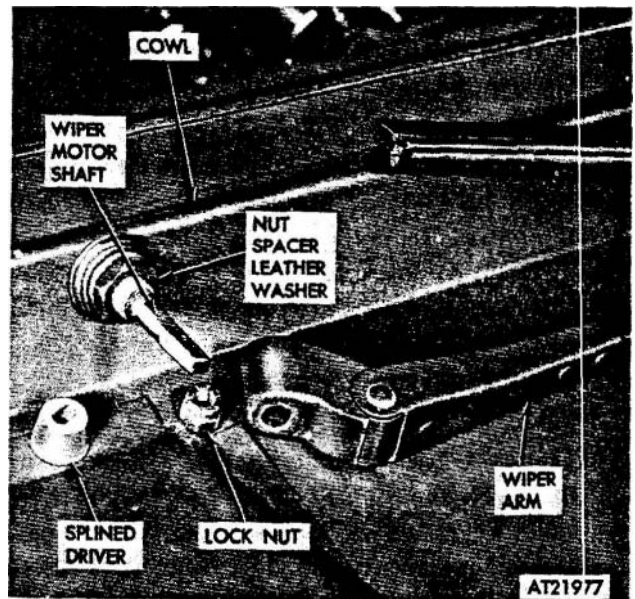

Figure 2-325. Windshield wiper motor, removal and installation.
- (1) Remove arm and blade assembly (refer to para 2-227).
- (2) Remove splined driver, nut, spacer, and leather washer from shaft and shaft housing (fig 2-325). Disconnect electrical leads.
- (3) Remove nuts securing wiper motor to stabilizer bracket and remove wiper motor.
- (1) Position motor assembly by inserting drive shaft through hole in cowl and the two studs through stabilizer bracket holes. Install two nuts securing motor assembly to stabilizer bracket,
- (2) Install leather washer, spacer, and nut: on drive shaft housing securing motor assembly to cowl. Torque nut to 28-32 lbs-ft. (fig 2-325).
- (3) Connect electrical leads to their respective terminal on motor assembly and secure. Turn wiper motor switch "ON" and check for proper operation. Turn switch "OFF."
- (4) Install splined driver on drive shaft and position arm and blade assembly on driver and shaft. Install nut finger tight. Turn wiper motor switch "ON" and check assembly for proper operation and correct arm assembly positioning. Remove nut and reposition as necessary. Tighten nut securing arm and blade assembly to wiper motor drive shaft.